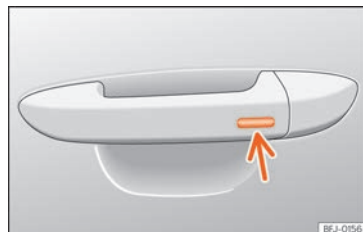

Fig. 106 Door handle: sensor surface.
• Press and hold the locking sensor surface »» Fig. 106 (arrow) on the door handle to close the sunroof. If you release the sensor surface, the closing movement stops.